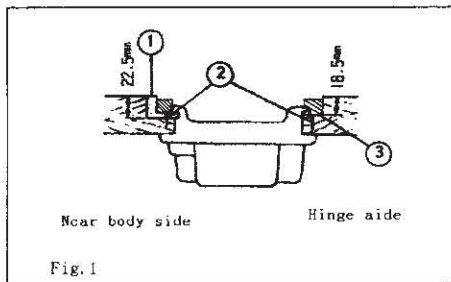

Fig. 1
4、Installation of the machine(Fig.1)
Put the oil reservoir rubber cushion ① and oil reservoir felt cushion ③ on the four corners of the table, fix them with the screws ②, then install the oil reservoir(Fig.1)